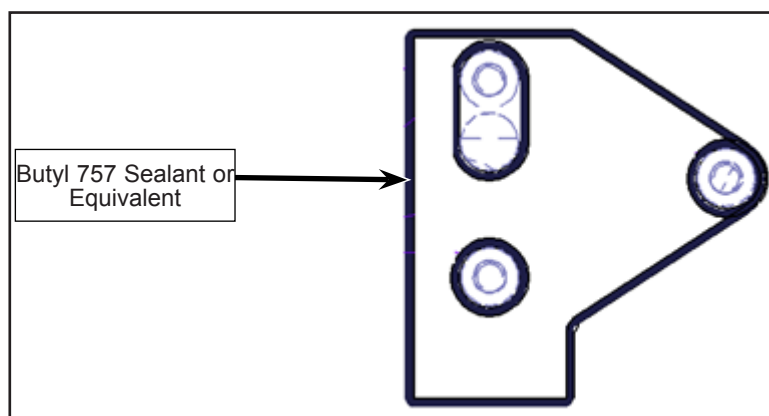

Figure 22 - Application of Sealant to Gasket
- 1.26. Apply Butyl 757 sealant or equivalent to both faces of gasket N78511 as shown (see Figure 22).